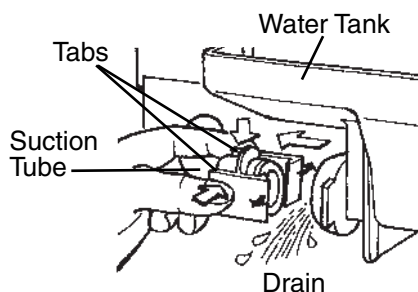

Fig. 27
- 6) Inside the ice storage bin, disconnect the suction tube by squeezing the tabs and pulling the tube clear. See Fig. 27. Allow the water tank to drain.